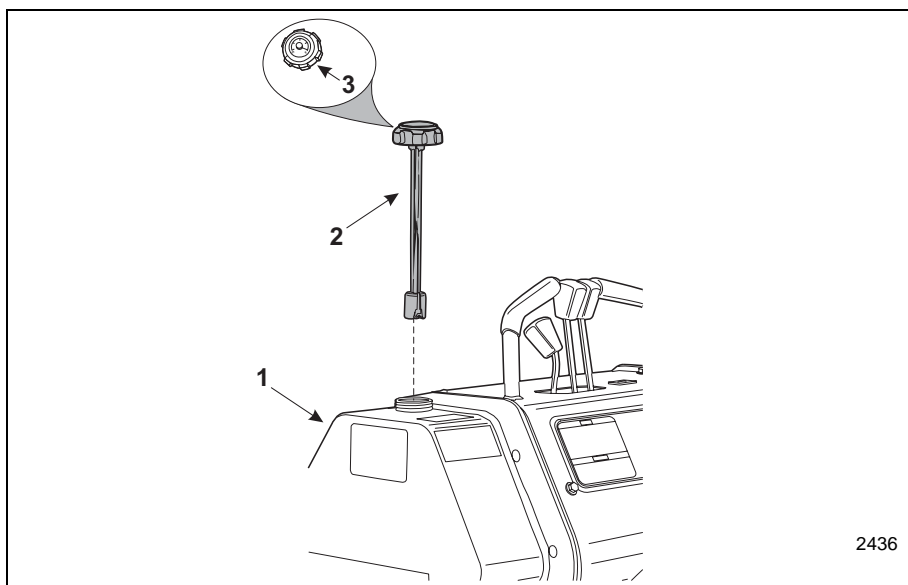

Figure 4-2 Fuel Level Check
3. The Boxer has one saddle fuel tank (Item 1, Figure 4-2). The tank has a fuel gauge (Item 3, Figure 4-2) located in the filler cap (Item 2, Figure 4-2). Remove cap and visually inspect fuel level to make sure that the indicator is showing the proper fuel level. Make sure that the tank has been filled on a daily basis. Carefully add fuel.